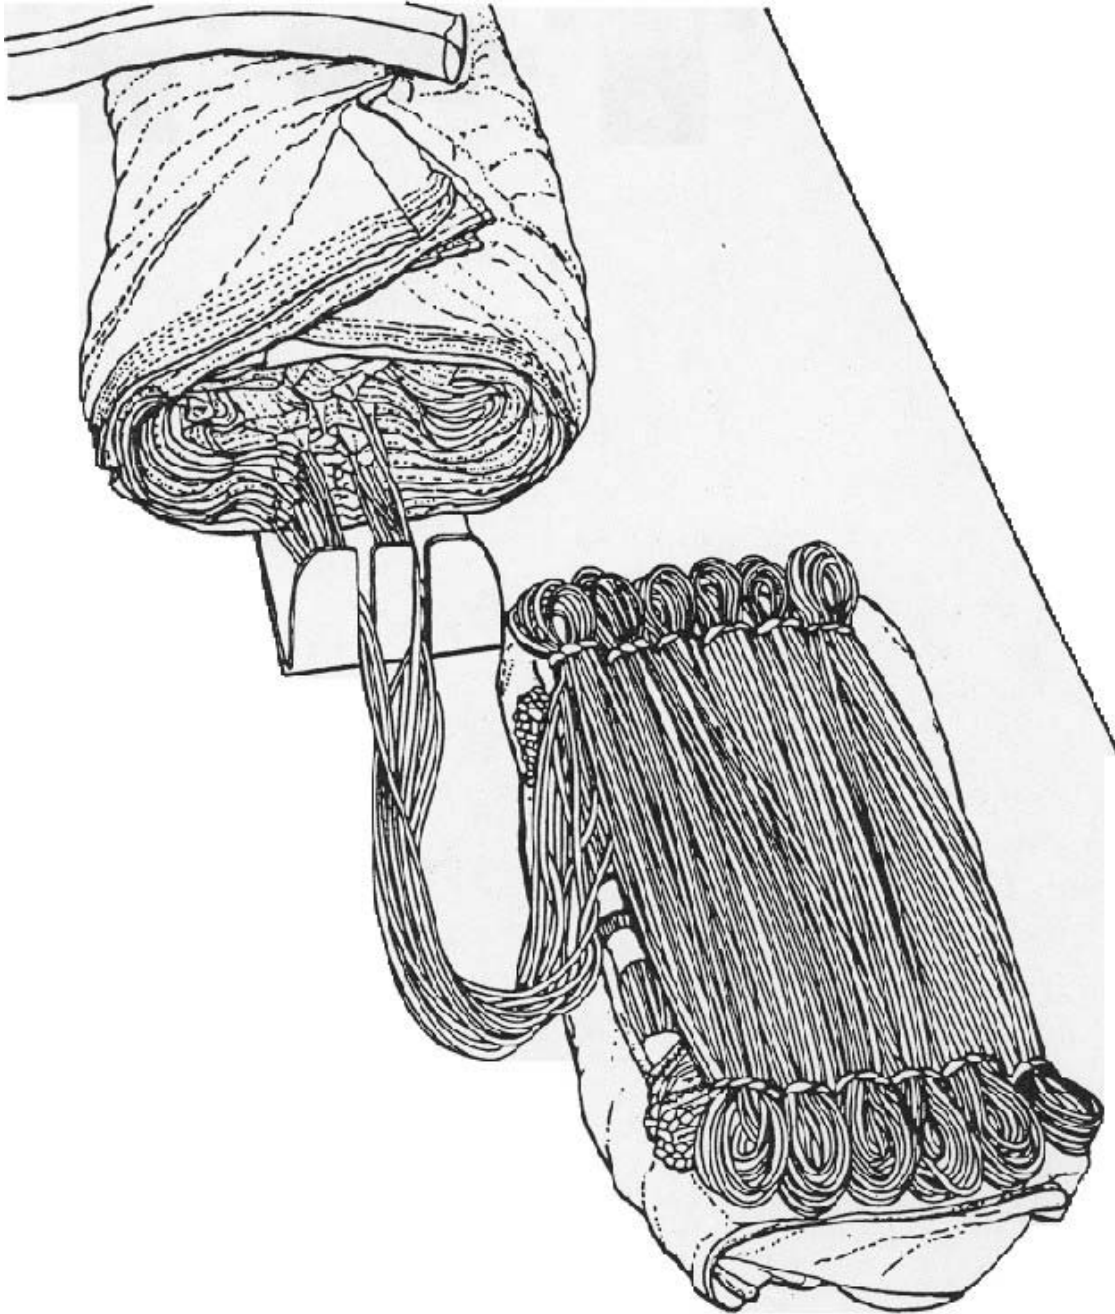

Figure 3-11
- e. Stow the suspension lines alternately from right to left until 14 to 16 inches of the unstowed lines remain between the last stow and the skirt of the canopy. Make sure there are 12 stows; 6 stows on each side. (See Figure 3-11)